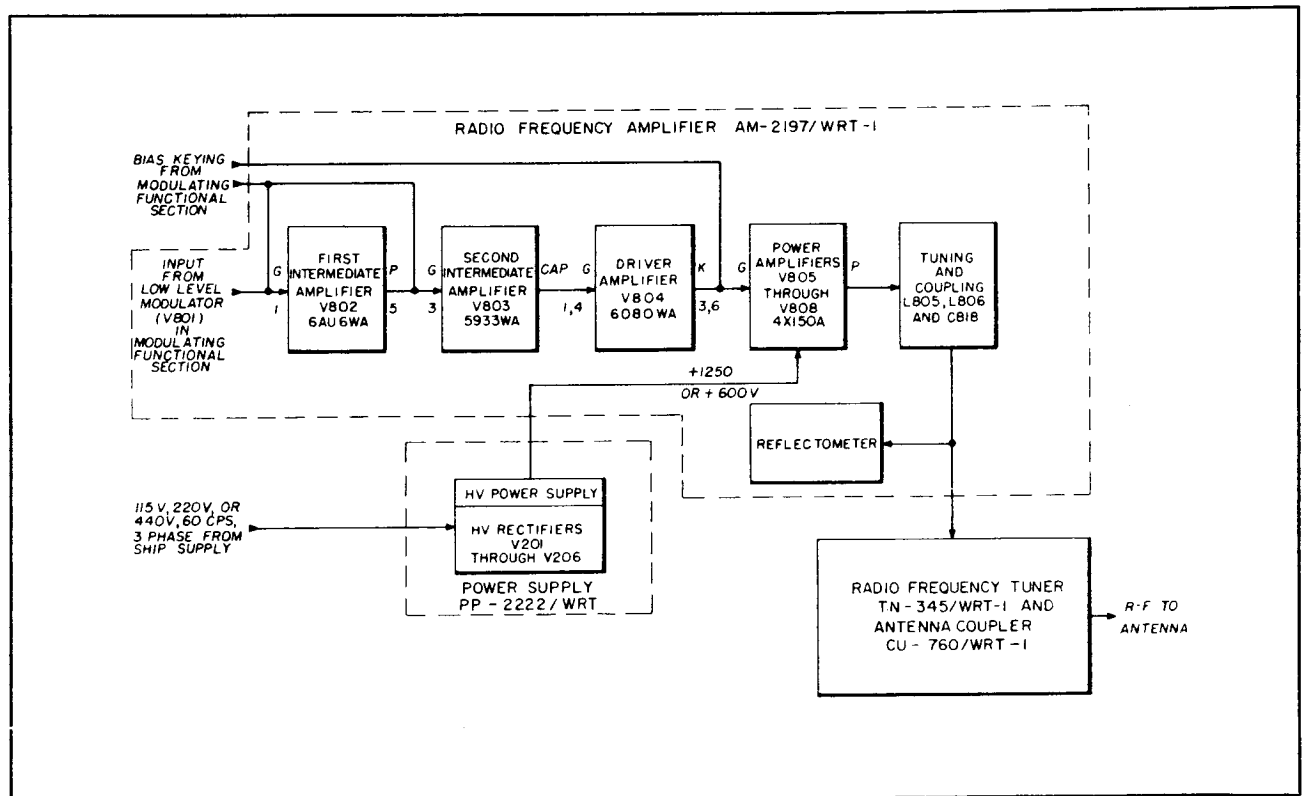

Figure 4-17. Power Amplifier Section, Functional Block Diagram
(1) The power amplifier functional section accepts the modulated r-f carrier from the low level modulator in the modulating functional section and raises the signal power to a 100-watt or 500-watt level for application to the transmitting antenna. A block diagram of the power amplifier functional section is shown in figure 4-17.
(2) As shown in figure 4-17, the output of the low level modulator, V801, is applied to the grid of the first intermediate amplifier, V802. After amplification by V802, the signal is applied to the second intermediate amplifier, V803. The two intermediate power amplifiers are keyed by the application or removal of grid bias. The keying is accomplished by control circuitry in Amplifier-Power Supply AM-2198/WRT-1. The two amplifier stages operate Class A for minimum distortion.
(3) Driver amplifier V804 supplies the grid drive for power amplifiers V805 through V808. Two of the power amplifier tubes are connected in parallel in each half of a push-pull circuit. During 100W and 500W operation, +1250 volts d-c is applied to the plates of V805 through V808 from the H.V. power supply consisting of rectifiers V201 through V206. When the POWER SELECTOR switch is in the TUNE
(4) A reflectometer circuit samples the output voltage and current of the power amplifiers and provides for measurement of the power output, voltage standing wave ratio (VSWR), and percentage of modulation. A protective overload relay is included in the reflectometer to disable the high voltage supply when the VSWR becomes greater than 4:1.
(5) As shown in figure 4-17, Radio Frequency Tuner TN-345/WRT-1 and Antenna Coupler CU-760/WRT-1 are inserted in the r-f transmission line near the transmitting antenna. The function of the two units is to match the impedance of the fixed transmitting antenna to the 50-ohm coaxial feeder line throughout the entire frequency range of 0.3 to 1.5 Mc. Antenna Coupler CU-760/WRT-1 contains a coil